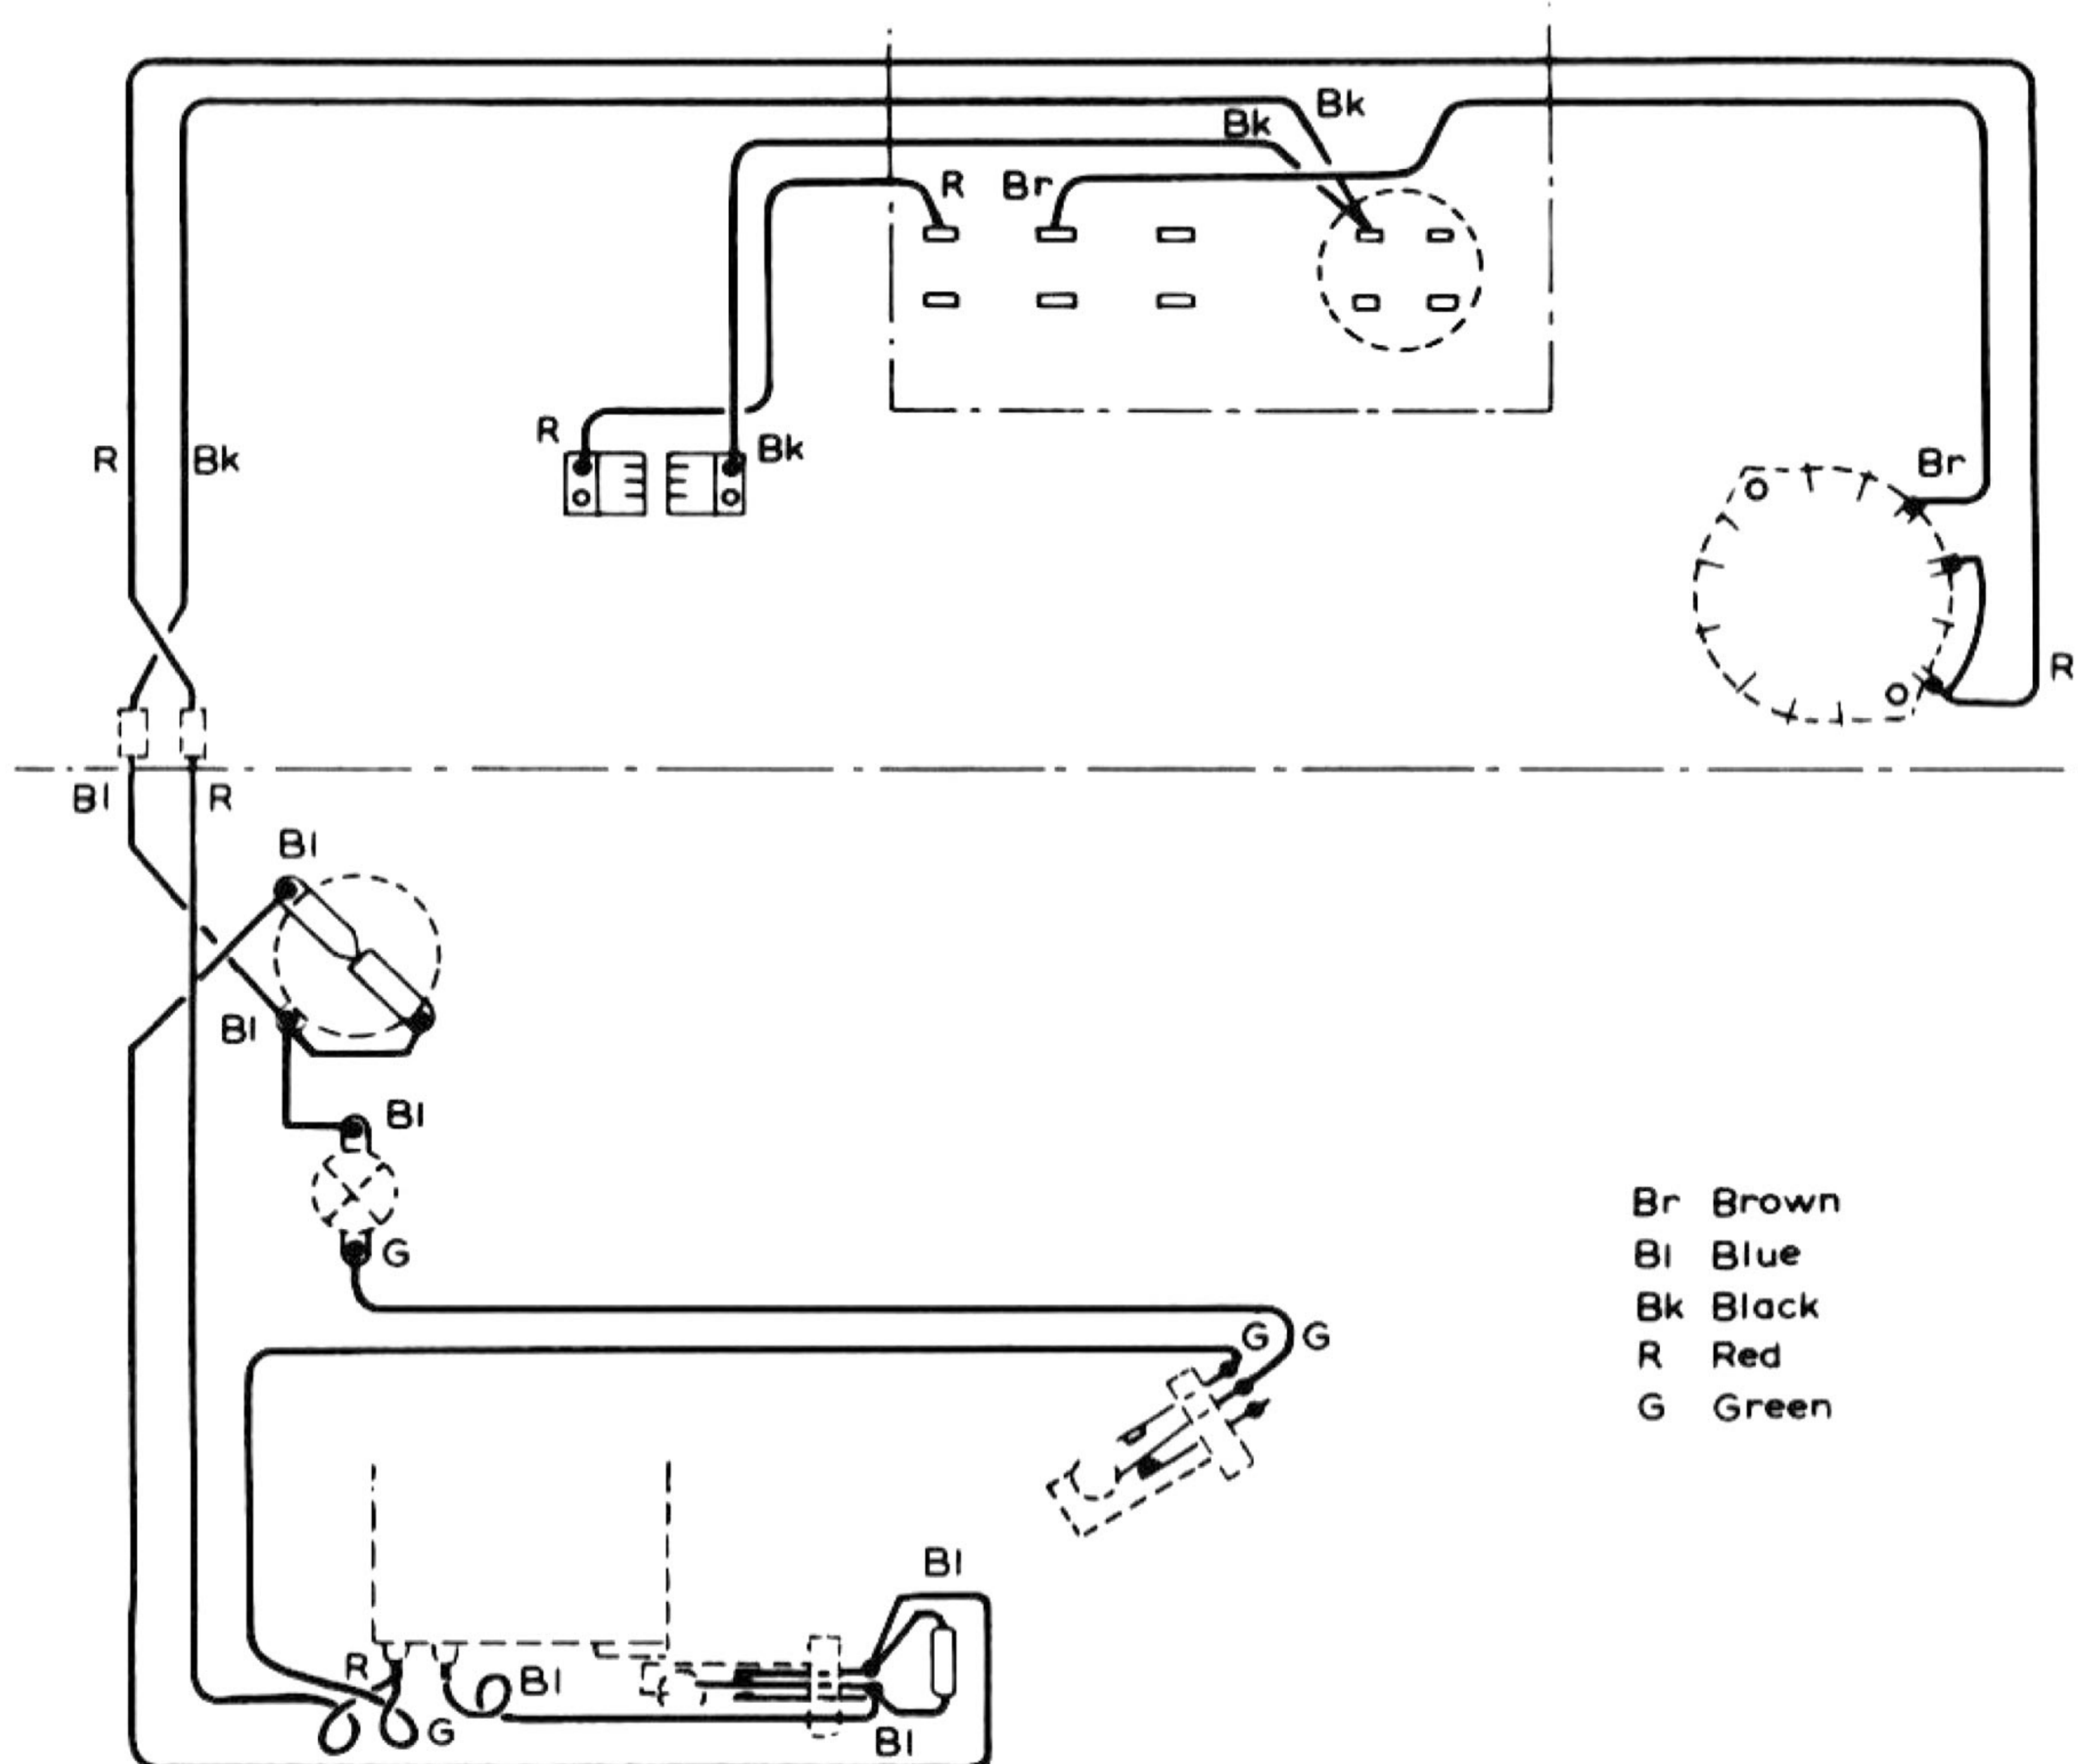

Fig 7. Motor wiring diagram
The red & green wires should be soldered together onto the outside terminal, and the blue wire onto the inside terminal (see Fig. 7). Take care to lift the micro switch 3/19 blades onto their plate (speed change & switch) (C); failure to do so may break the micro switches or shear off the plate. Replace the main belt on the motor pulley.
If the motor fails to run when a supply is connected to the machine, check for voltage at each connection in the circuit (see Fig. 7) starting at the supply. The diagram is laid out as nearly as possible in the same relation as the components on the equipment.